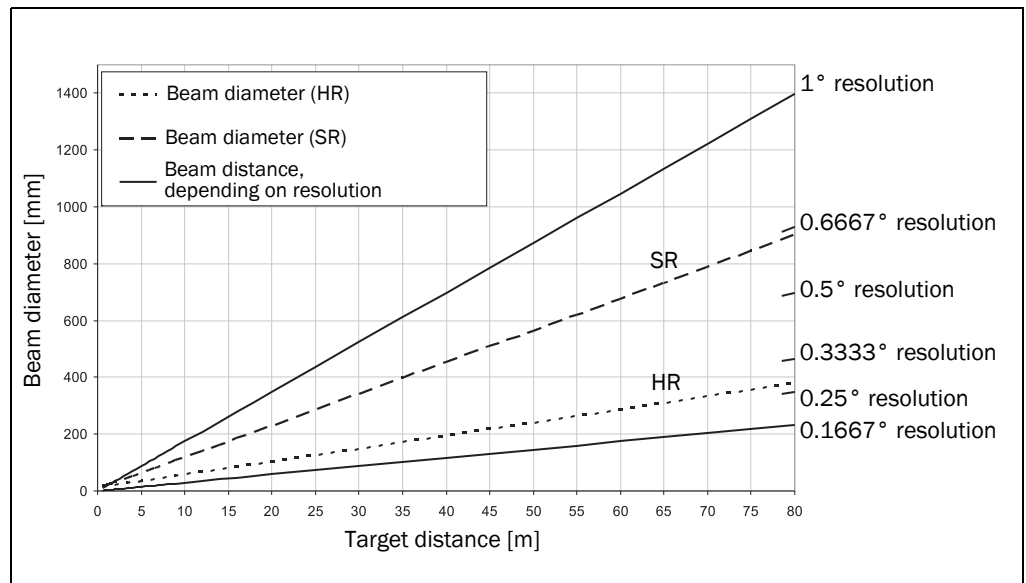

Fig. 15: Beam diameter and distance between measured points of the LMS500 at 0 to 80 m
The diagram in Fig. 15 shows the beam diameter and the measured point spacing as a function of the distance from the LMS5xx.
#### Example for angular resolution $0.1667^\circ$ (HR) in Fig. 15
- For beam diameter and measured point spacing as a function of the distance from the LMS5xx see the diagram in Fig. 15 on page 29.